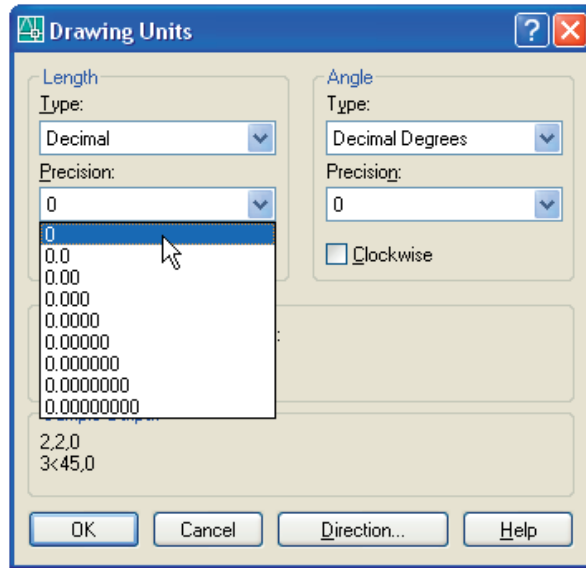

Fig. 1.26 Setting **Units** to 0
5. In the command palette enter **units** and *right-click*. The **Drawing Units** dialog appears (Fig. 1.26). In the **Precision** popup list of the **Length** area of the dialog, *click* on **0** and then *click* the **OK** button. Note the change in the coordinate units showing in the status bar.